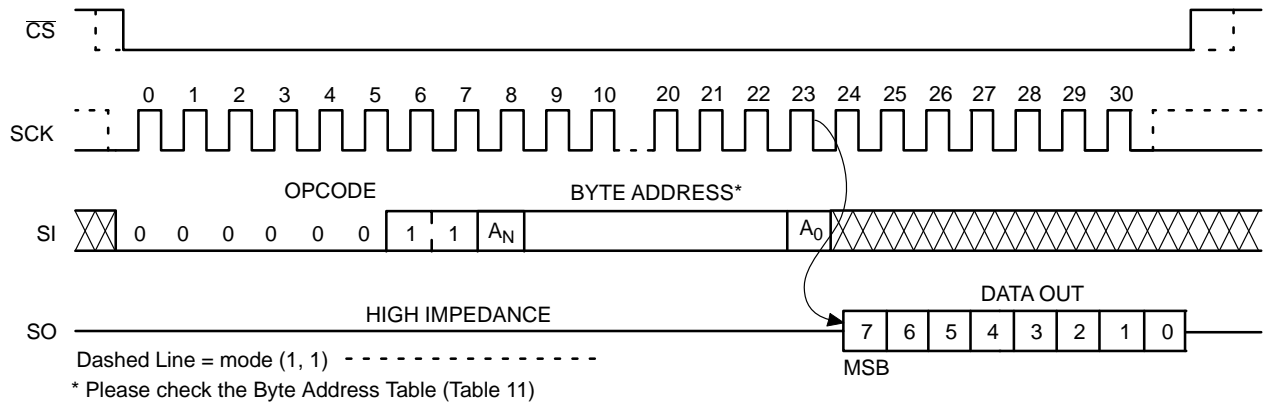

Figure 8. READ Timing
After receiving the last address bit, the NV25xxx will respond by shifting out data on the SO pin (as shown in Figure 8). Sequentially stored data can be read out by simply continuing to run the clock. The internal address pointer is automatically incremented to the next higher address as data is shifted out. After reaching the highest memory address, the address counter “rolls over” to the lowest memory address, and the read cycle can be continued indefinitely. The read operation is terminated by taking  $\overline{CS}$  high.
Reading the additional 32-byte Identification Page (IP) is achieved using the same Read command sequence as used for Read from main memory array (Figure 8). **The IPL bit from the Status Register must be set (IPL = 1) before attempting to read from the IP.** The [A4:A0] are the address significant bits that point to the data byte shifted out on the SO pin. If the  $\overline{CS}$  continues to be held low, the internal address register defined by [A4:A0] bits is automatically incremented and the next data byte from the IP is shifted out. The byte address must not exceed the 32-byte page boundary.